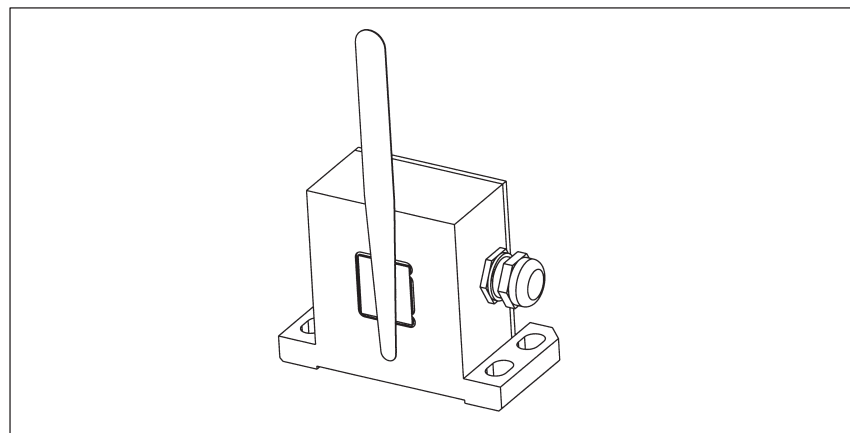

Fig. 3-1 Feeler gauge and scanning head
- Place the feeler gauge between the scanning head and gear wheel as shown in the diagram (Fig. 3-1). It should be noted that the encoder scanning surface and the feeler gauge must be clean.